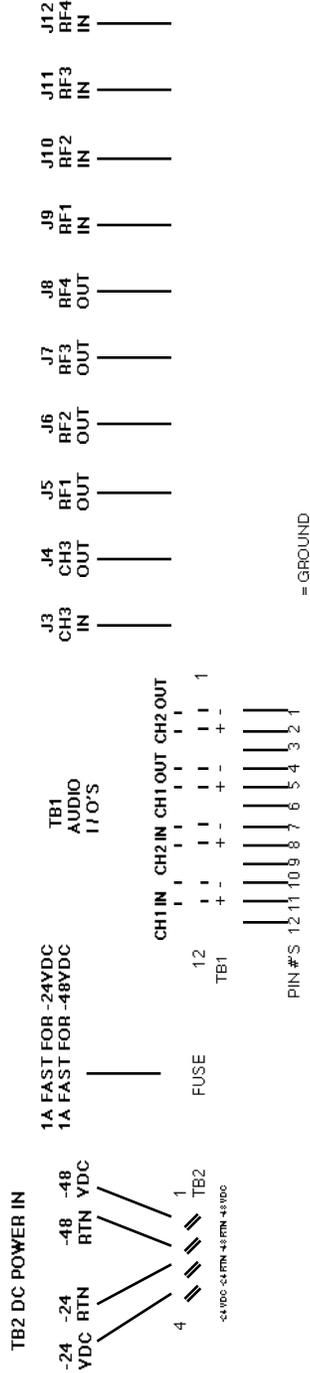

FIGURE 2.2 1795 FRONT AND REAR PANELS
2.3 INPUT/OUTPUT CONNECTIONS (FIGURE 2.2)
Table 2.2 INPUT/OUTPUT CONNECTIONS(FIGURE 2.2)
2.4 CONTROLS AND INDICATORS (see FIGURE 2.2)
TABLE 2.4 CONTROLS AND INDICATORS (FIGURE 2.2)
Monitor Test Point 3 (see Figure 2.2) on front lefthand edge of the main PWB with a high stability counter. Verify the output frequency is within 1 Hertz of the desired carrier frequency (frequency is stamped on top of oscillator). If the frequency is out of adjustment, remove the adjustment cover on the front of the oscillator. Using a non-magnetic screwdriver-type adjustment tool, adjust the frequency to within 0.5 Hz of the desired frequency and reinstall adjustment cover to oscillator.